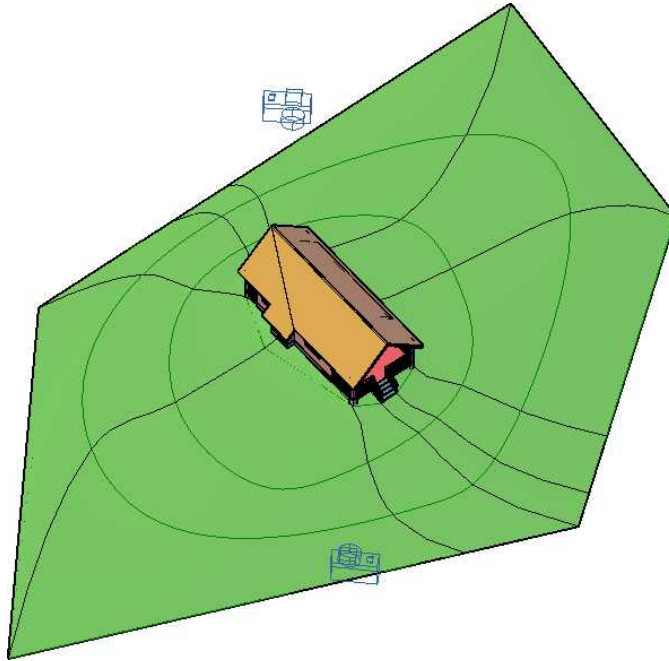

FIGURE 17.8: Viewing the cabin and cameras from above and to the southeast
9. Use the ViewCube to change the current view to a viewpoint from the southeast and slightly above the cabin (see Figure 17.8).